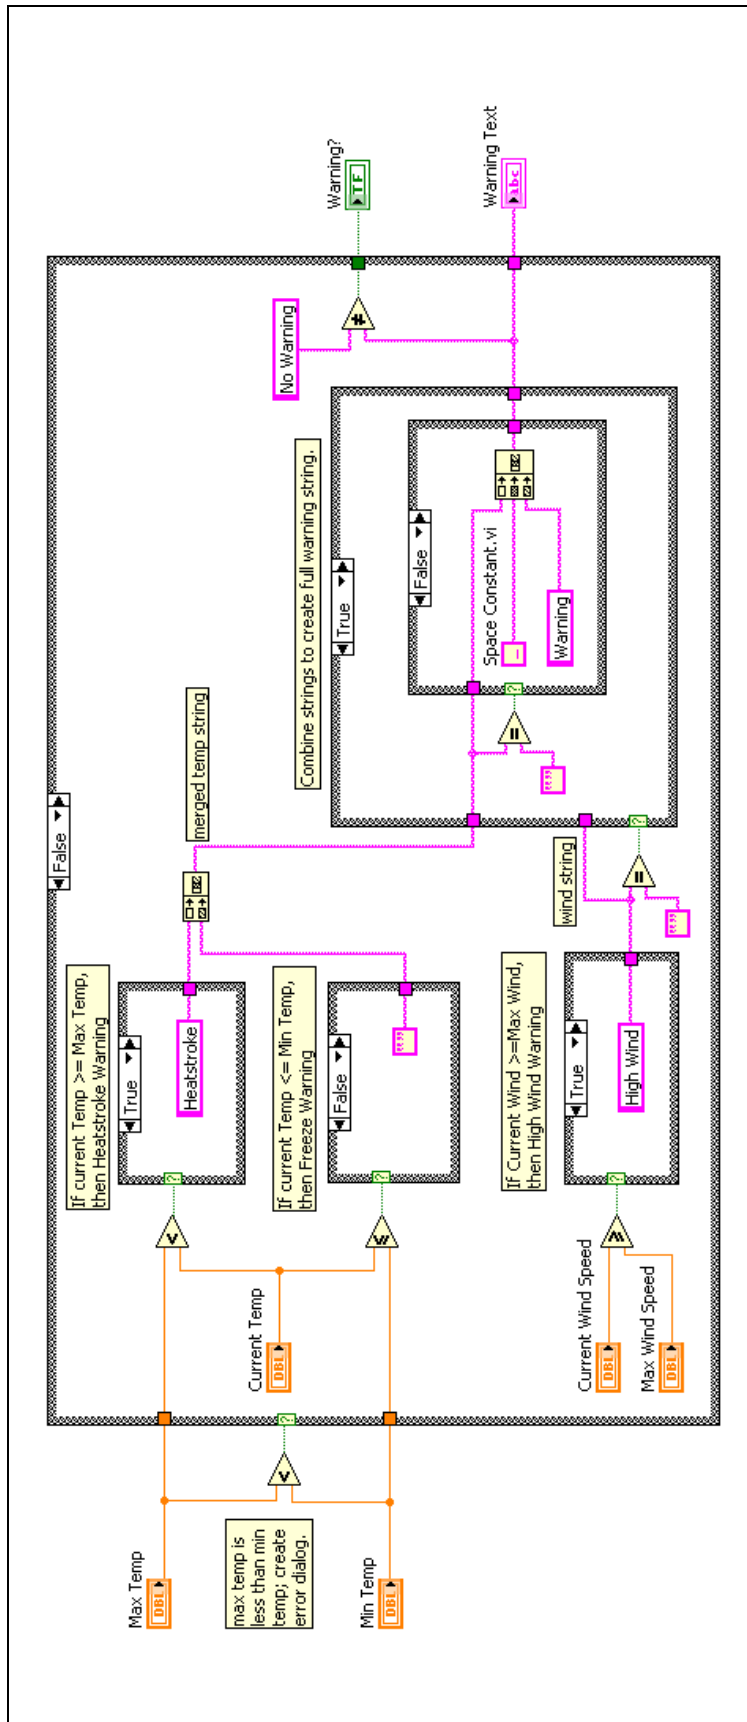

Figure 3-49. Determine More Warnings Block Diagram
Create a block diagram similar to Figure 3-49.
3. Use Figures 3-49 through 3-53 to assist you in building the block diagram code.